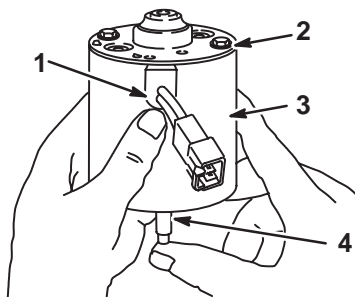

Fig. 98 – Removing Armature
- Push motor armature out through bottom of starter housing, taking care to slide plastic mounted terminal out of motor housing along with end cap, Fig. 98.